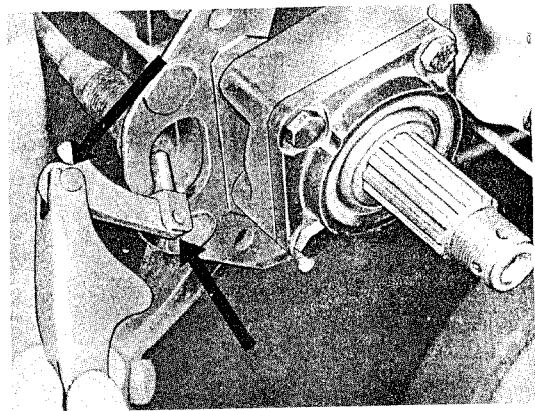

Fig. 15
8. Assemble the brake in the reverse order. The actuating mechanism is the same as the VW Standard mechanical brakes (see Fig. 15 + 16).